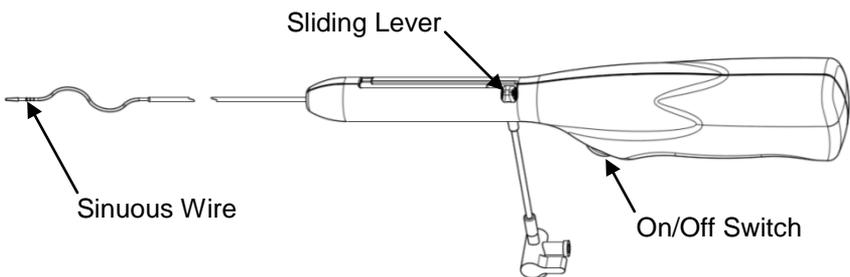

Figure 2
2. Remove the CLEANERXT™ Rotational Thrombectomy System from the package. Depress the ON/OFF switch to ensure that the sinuous wire spins freely (refer to Figure 2). Release the switch to stop the rotator. **Precaution: Do not use the device if the sinus wire does not activate immediately when the switch is depressed, and deactivate immediately when the switch is released.**